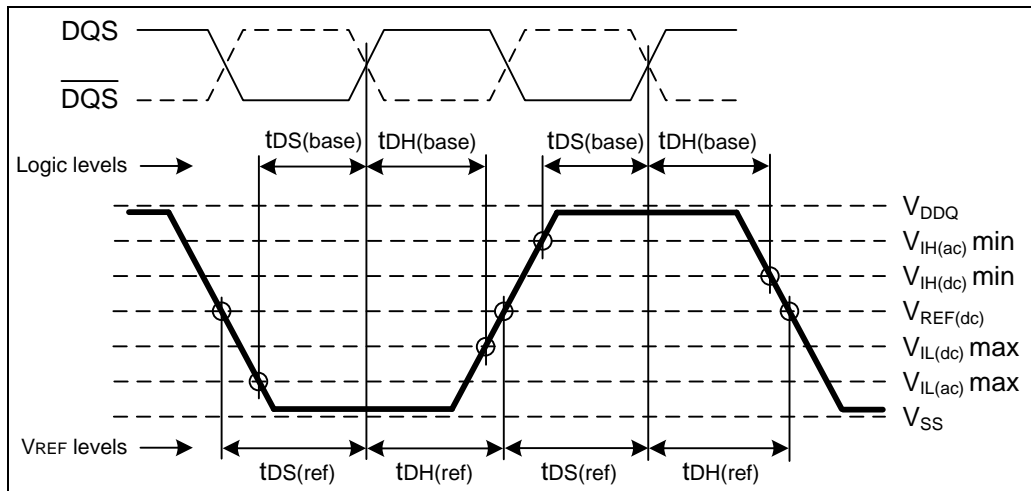

Figure 19 – Differential input waveform timing – tDS and tDH
16. Input waveform timing t_{DS} with differential data strobe enabled $MR[\text{bit}10]=0$. There are two sets of values listed for \overline{DQ} and \overline{DM} input setup time: $t_{DS}(\text{base})$ and $t_{DS}(\text{ref})$. The $t_{DS}(\text{ref})$ value (for reference only) is equivalent to the baseline value $t_{DS}(\text{base})$ at V_{REF} when the slew rate is 2.0 V/nS, differentially. The baseline value $t_{DS}(\text{base})$ is the JEDEC defined value, referenced from the input signal crossing at the $V_{IH}(\text{ac})$ level to the differential data strobe crosspoint for a rising signal, and from the input signal crossing at the $V_{IL}(\text{ac})$ level to the differential data strobe crosspoint for a falling signal applied to the device under test. \overline{DQS} , \overline{DQS} signals must be monotonic between $V_{IL}(\text{dc})_{\text{max}}$ and $V_{IH}(\text{dc})_{\text{min}}$. See Figure 19. If the differential \overline{DQS} slew rate is not equal to 2.0 V/nS, then the baseline values must be derated by adding the values from table of DDR2-667, DDR2-800 and DDR2-1066 t_{DS}/t_{DH} derating with differential data strobe (page 60).
17. Input waveform timing t_{DH} with differential data strobe enabled $MR[\text{bit}10]=0$. There are two sets of values listed for \overline{DQ} and \overline{DM} input hold time: $t_{DH}(\text{base})$ and $t_{DH}(\text{ref})$. The $t_{DH}(\text{ref})$ value (for reference only) is equivalent to the baseline value $t_{DH}(\text{base})$ at V_{REF} when the slew rate is 2.0 V/nS, differentially. The baseline value $t_{DH}(\text{base})$ is the JEDEC defined value, referenced from the differential data strobe crosspoint to the input signal crossing at the $V_{IH}(\text{dc})$ level for a falling signal and from the differential data strobe crosspoint to the input signal crossing at the $V_{IL}(\text{dc})$ level for a rising signal applied to the device under test. \overline{DQS} , \overline{DQS} signals must be monotonic between $V_{IL}(\text{dc})_{\text{max}}$ and $V_{IH}(\text{dc})_{\text{min}}$. See Figure 19. If the differential \overline{DQS} slew rate is not equal to 2.0 V/nS, then the baseline values must be derated by adding the values from table of DDR2-667, DDR2-800 and DDR2-1066 t_{DS}/t_{DH} derating with differential data strobe (page 60).